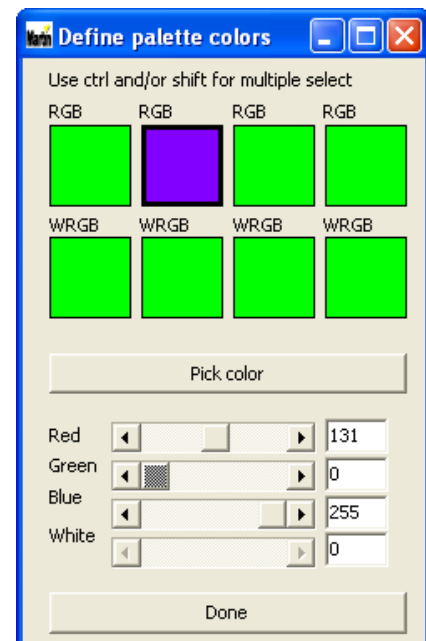

Figure 10: Modifying the appearance of a scene
- See Figure 10. Select one of the luminaire groups for editing by clicking on its box (Group B is selected in Figure 10). Use the **Ctrl** and/or **Shift** keys to select more than one group.
- See Figure 10. Either click on the **Pick color** button to open a Windows-style color palette, or adjust the color mixing sliders.